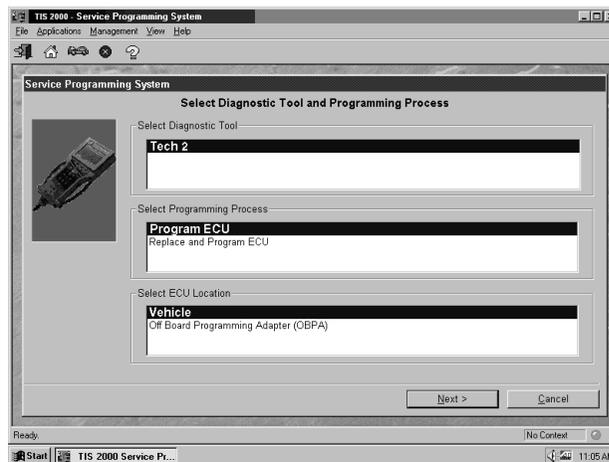

FIGURE 8-21. Select Diagnostic Tool and Programming Process Screen
- d. At the Select Diagnostic Tool and Programming Process screen (Figure 8-21) make the appropriate selection for your procedure: